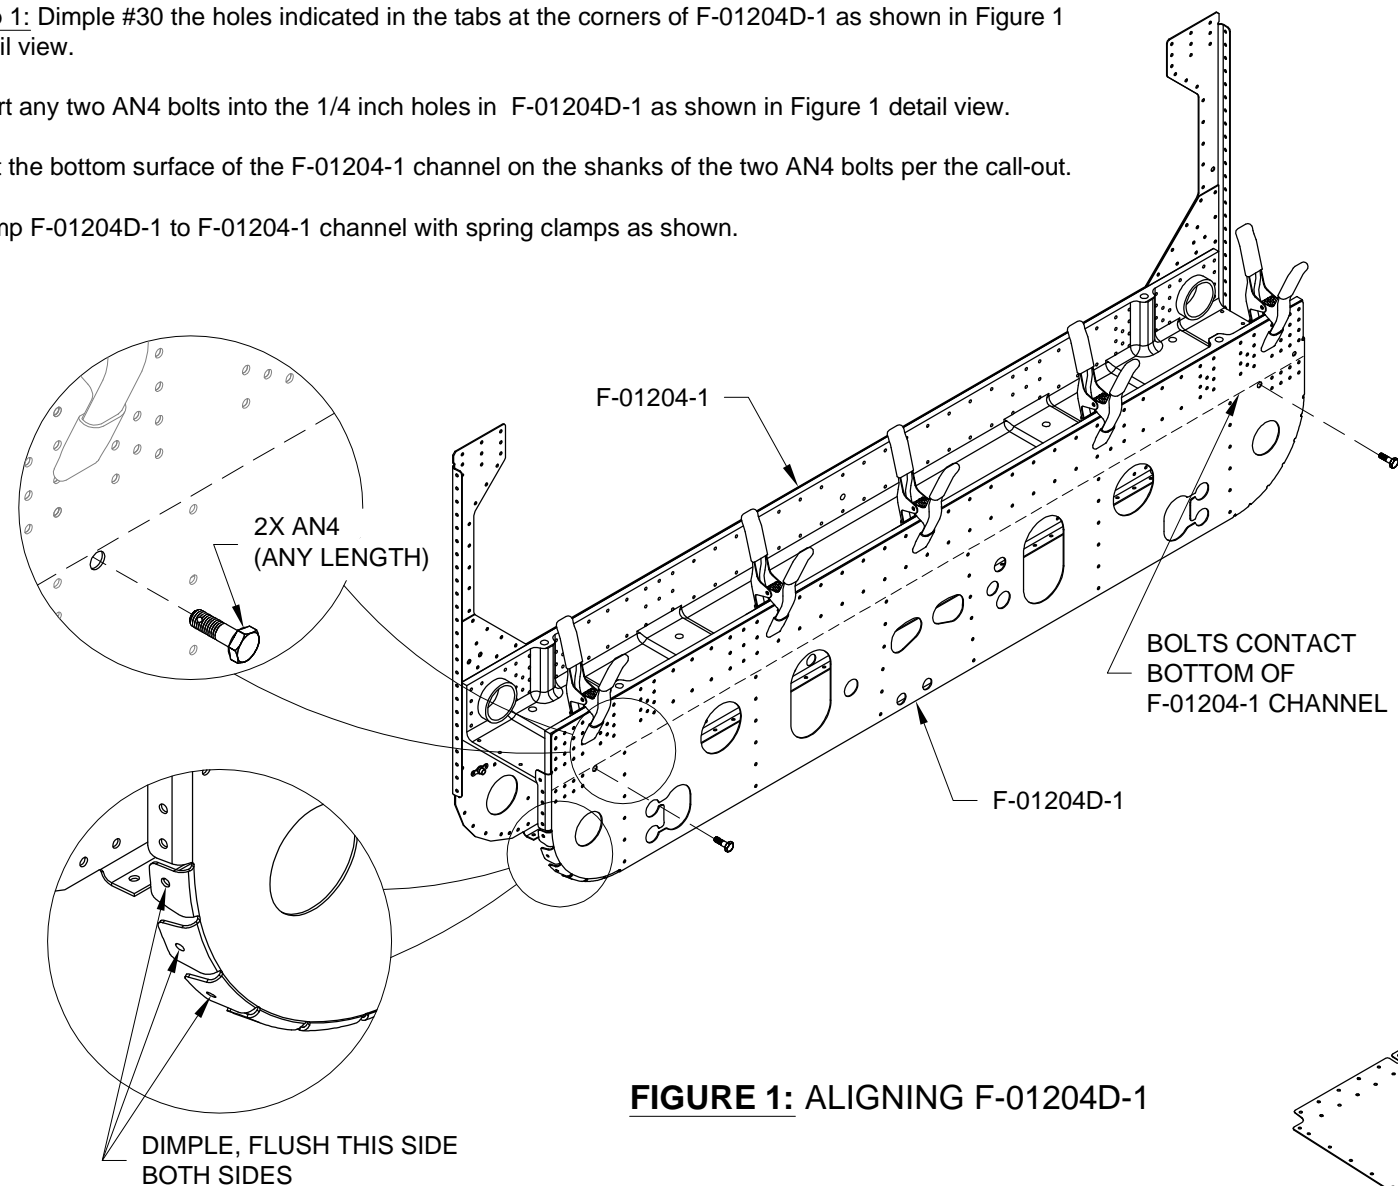
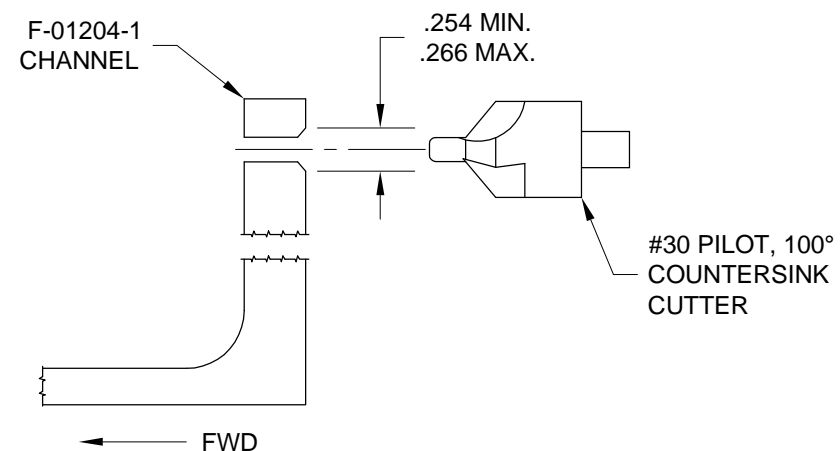

FIGURE 1: ALIGNING F-01204D-1
FIGURE 2: COUNTERSINK ORIENTATION DETAIL
Step 6: Dimple #30 the holes in F-01204D-1 corresponding to the flush rivet call-outs shown on Page 20iS-06, Figure 1.
Step 7: Machine countersink #30 the holes in F-01204-1 to fit the dimples in F-01204D-1. See Page 20iS-06, Figure 1 for flush rivet locations. See Figure 2 for countersink detail. A piece of thin scrap with a 1/4 inch hole drilled in it may be used to check the diameter. See description on Page 14-02, Figure 2.